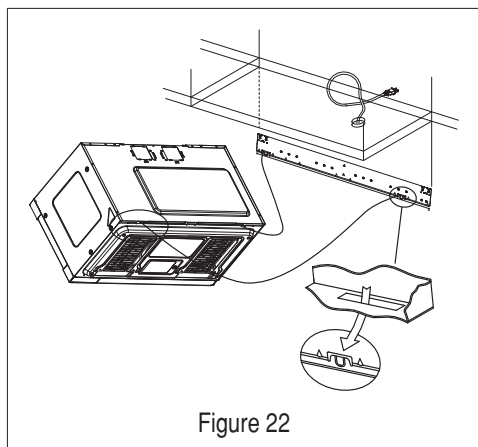

Figure 22
- Lift the microwave oven and tilt it forward. Hang the unit on two tabs at the bottom of the mounting plate. See Figure 22.